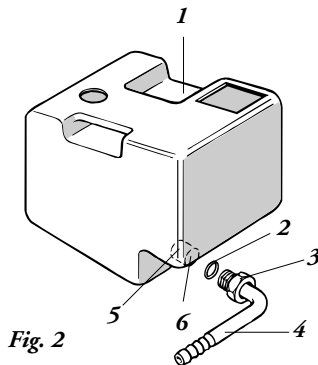

Fig. 2
- 2) *Fit the seal ring, outlet pipe and ring nut to the tank union (see fig. 2).*